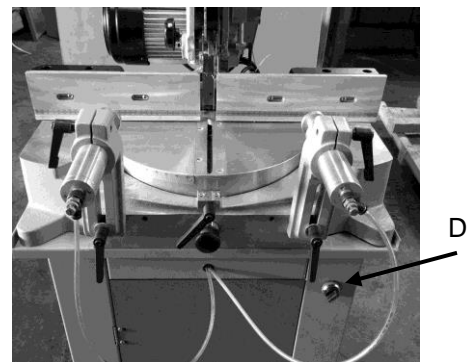

Fig 6
2. Clamp the material to be cut firmly to the working base by turn on the switch D (Fig 6) keeping it pressed against the fence so that it cannot move during the cutting operation.